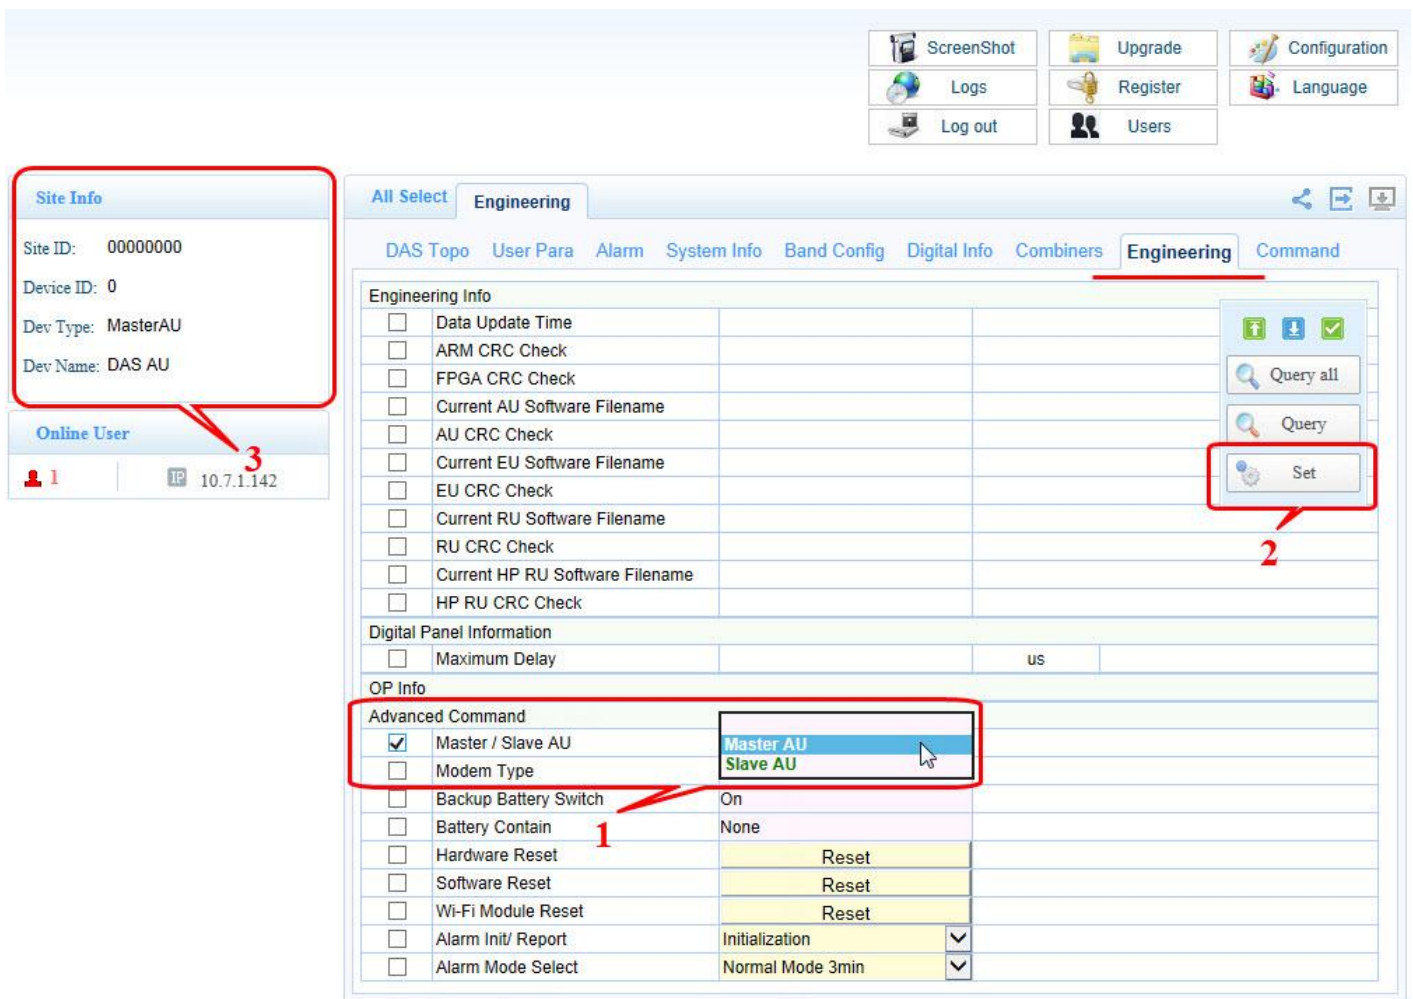

Figure 3-6 Master / Slave AU Selection
Each AU is factory-set to be the Master AU. See Figure 3-6 and the procedure below to set or change an AU to Master or Slave.
2. View the **Site Info** field. See 3 in Figure 3-6.